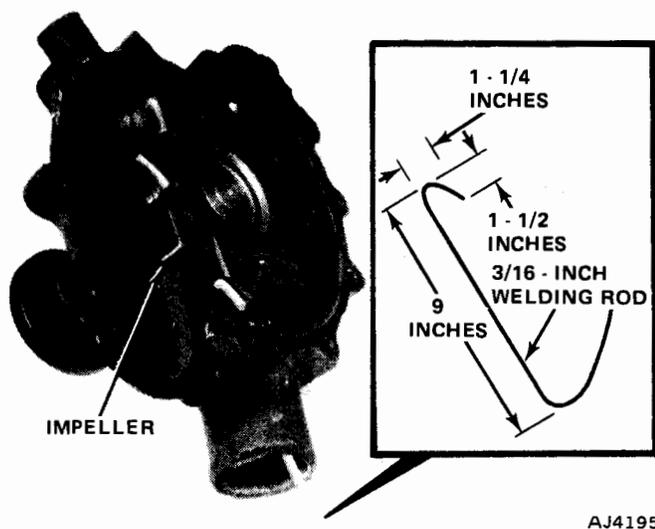

Fig. 2-5 Checking Water Pump for Loose Impeller
- (1) Position clean bucket beneath water pump.
- (2) Loosen fan belt.
(3) Disconnect lower radiator hose from water pump.
(4) Bend a stiff clothes hanger or welding rod as shown in figure 2-5.
(5) Position rod in water pump inlet and try to turn fan. If impeller is loose and can be held with rod while fan is turning, pump is defective. If impeller turns, pump is OK.
(6) Reconnect hose and replenish coolant, or proceed with further repairs.